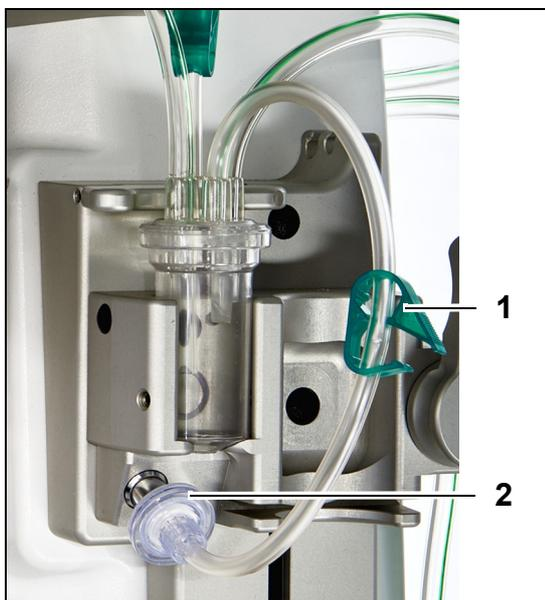

Fig. 92
1. Connect the Luer lock (2) hydrophobic filter from the ADU pressure line to the ADU pressure sensor.
2. Leave the clamp (1) of the hydrophobic filter tubing open, as shown in the Fig. 92.